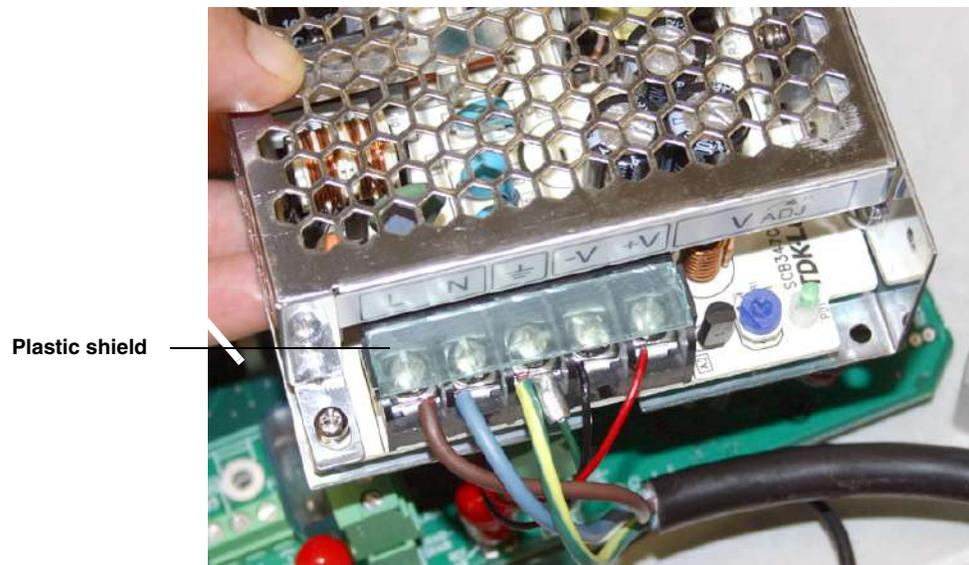

Figure 5-4 Power supply terminal strip: AC Input and DC Output
3. Remove the clear plastic shield protecting the power supply terminals (Figure 5-4). Note that the Signature ground wire ends in a ring terminal so the line cord ground wire can easily be connected to the same terminal.
6. Connect the line cord wires to the power supply, as shown in Figure 5-4, and then reinstall the plastic protective shield.